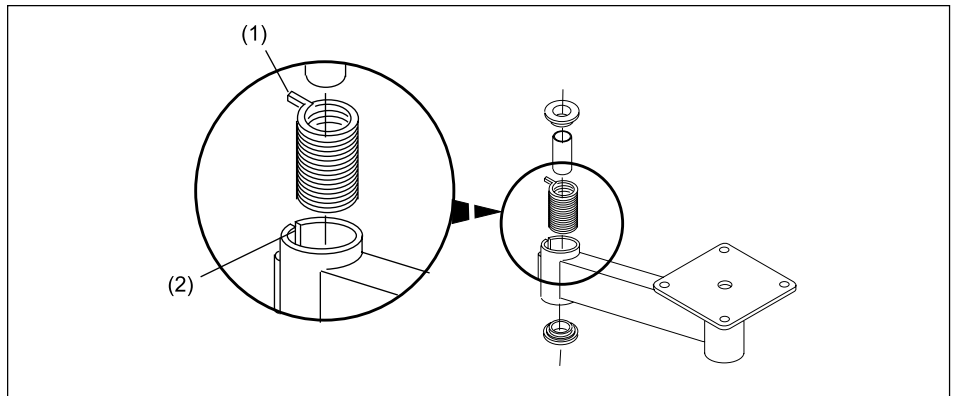

Figure 34. Align Outside End Tail of Spring with Seat Arm Slot
6. Insert spring sleeve into replacement spring and reinstall spring into seat arm, placing the outside tail end of the spring into the slot of seat arm. See *Figure 34*.